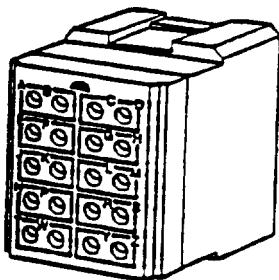

Figure 1. TJS Block
2. The Terminal Junction System (TJS) consists of bussing blocks, racks, brackets, wire-in-line junctions, grounding terminals, grounding blocks, electronics blocks and electronic in-line junctions that are used for innerconnecting electrical components and equipment in an electrical or electronic system. These environment resistant components have in common the use of crimp type external pin contacts in accordance with MIL-C-39029/1 for series I or crimp type external socket contacts in accordance with MIL-C-39029/22 for series II##. This family of TJS components is designed to operate continuously over a temperature range of -85°F to +392°F (-65°C to +200°C) (Figure 1).
13. **BUSSING.** Bussed means interconnected electrically within the component housing. Bussing arrangements and their circuit designators are shown in the boxed areas on top of the grommet (Figure 1). Each common bussed area is called a module.